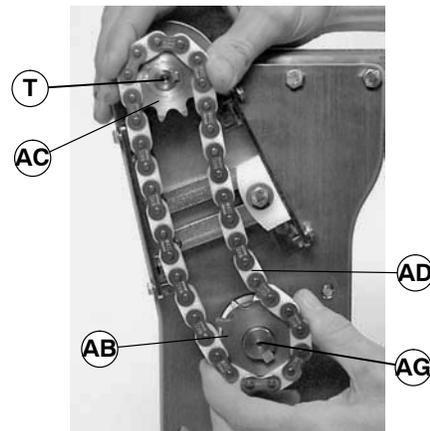

Figure 26
NOTE: Make sure sprocket keys are installed on conveyor input shaft (T of Figure 26) and gearmotor output shaft (AG).
6. Install new timing chain (AD) over sprockets (AB and AC). Install timing chain and sprockets on conveyor input shaft (T) and gearmotor output shaft (AG). Do not tighten sprocket set screws.